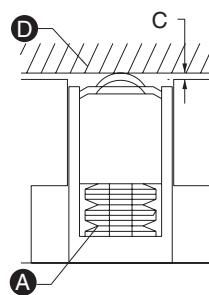

Fig.3
- Mechanical version (fig. 3): bearing modules lift the tool with the help of a spring (A). When the tool has been clamped or when its weight exceeds the total load capacity of the modules in operation, the spring is compressed and the tool rests on the press bed.
- Type BS (fig.3): Permanent fastening using screws and female threads in the bottom of T slots. Any type of segment. The dimensional table gives the position of the attachments. Refer to the HYDRAULIC PRESSURE GENERATORS section to choose an appropriate generator and ACCESSORIES for the connection.